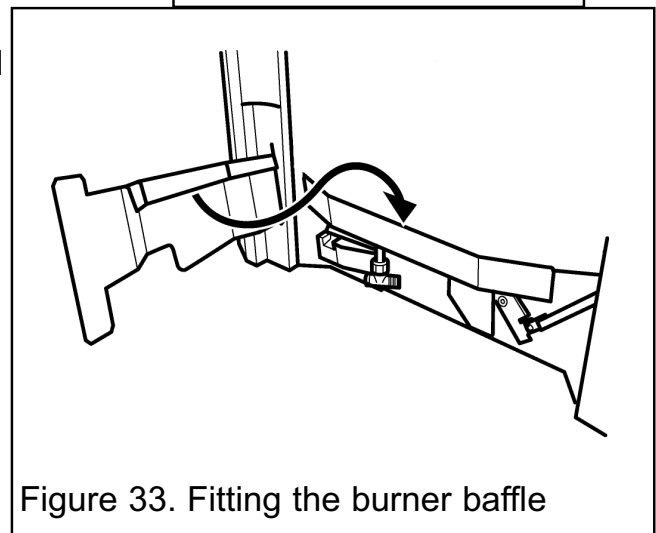

Figure 33. Fitting the burner baffle
7. Fit the burner baffle to the front flanges of the burner. To do this, place the baffle against the front flanges of the burner and lower into position. The return edges on the rear of the baffle should slot over the front flanges of the burner (See figure 33).